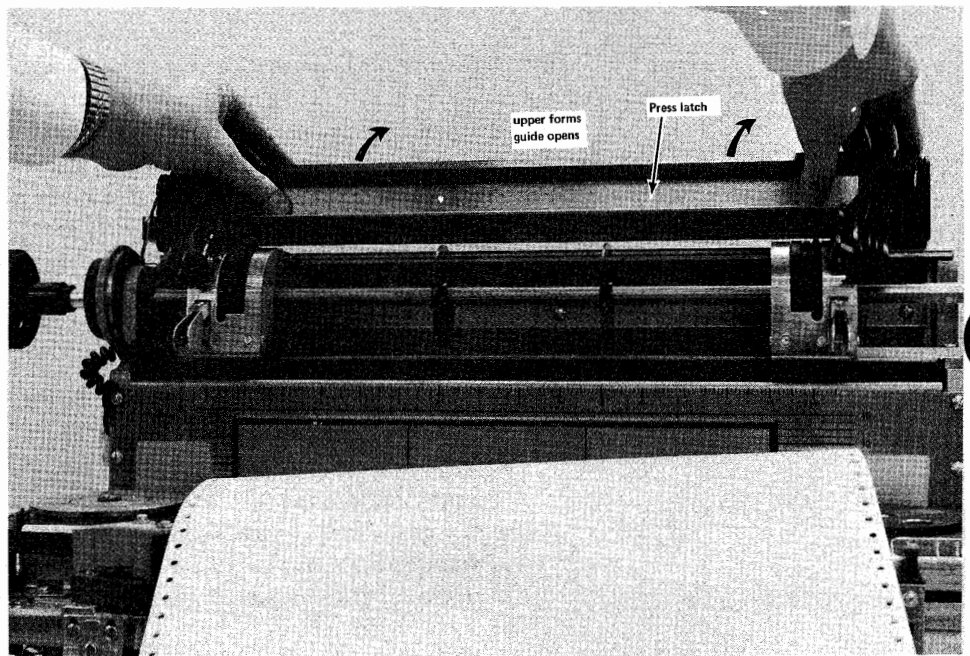

Figure 11-4. Opening Upper Forms Guide
- 3 Open the tractor covers, and the upper forms guide as shown in Figure 11-4.